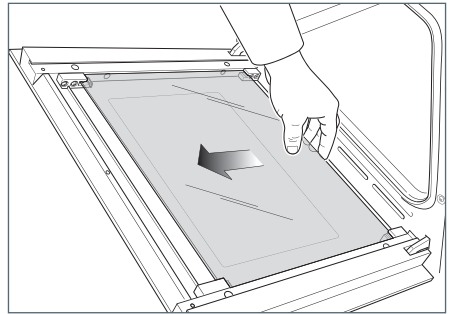

Fig.60b
- Gently unlock the middle pane of glass from the bottom clamps by moving it as in Fig. 60b.